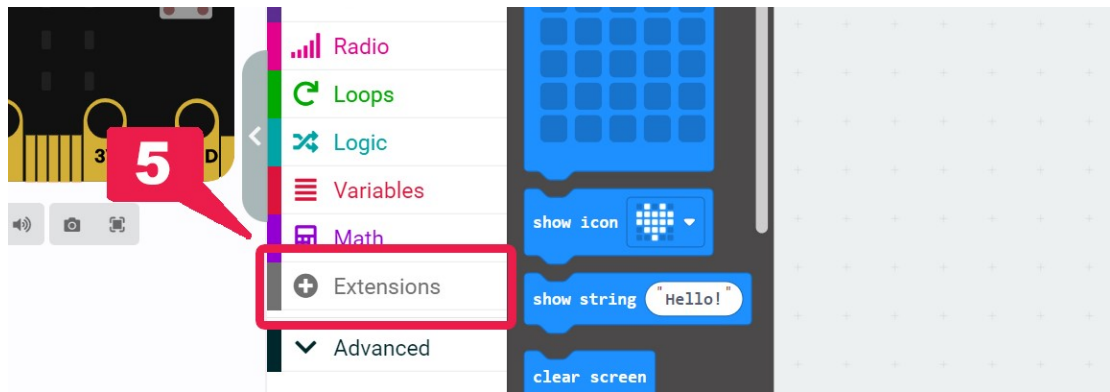

Figure 11: The “Extensions” command group
In addition to the standard command groups, you can import other blocks designed and provided by other programmers in the micro:bit community. These blocks are located in the “**Extensions**” group (5) (Figure 11) and can help to program more complex electronics and sensors, thus extending the capabilities of the micro:bit.